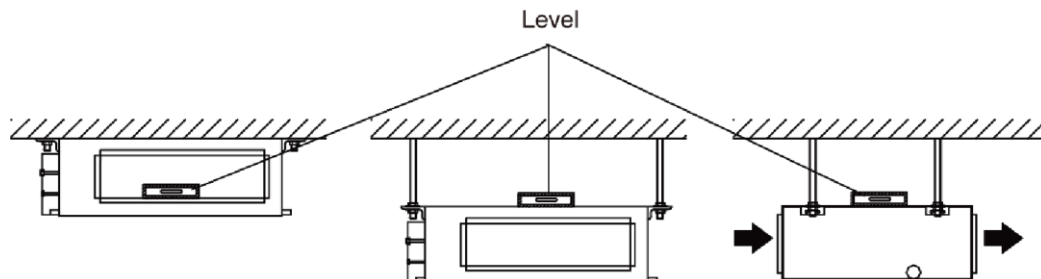

Fig. 6
- a. The indoor unit is equipped with a built-in water pump and float switch, verify the unit is level in all 4 directions using a level gauge as shown in Fig. 6.